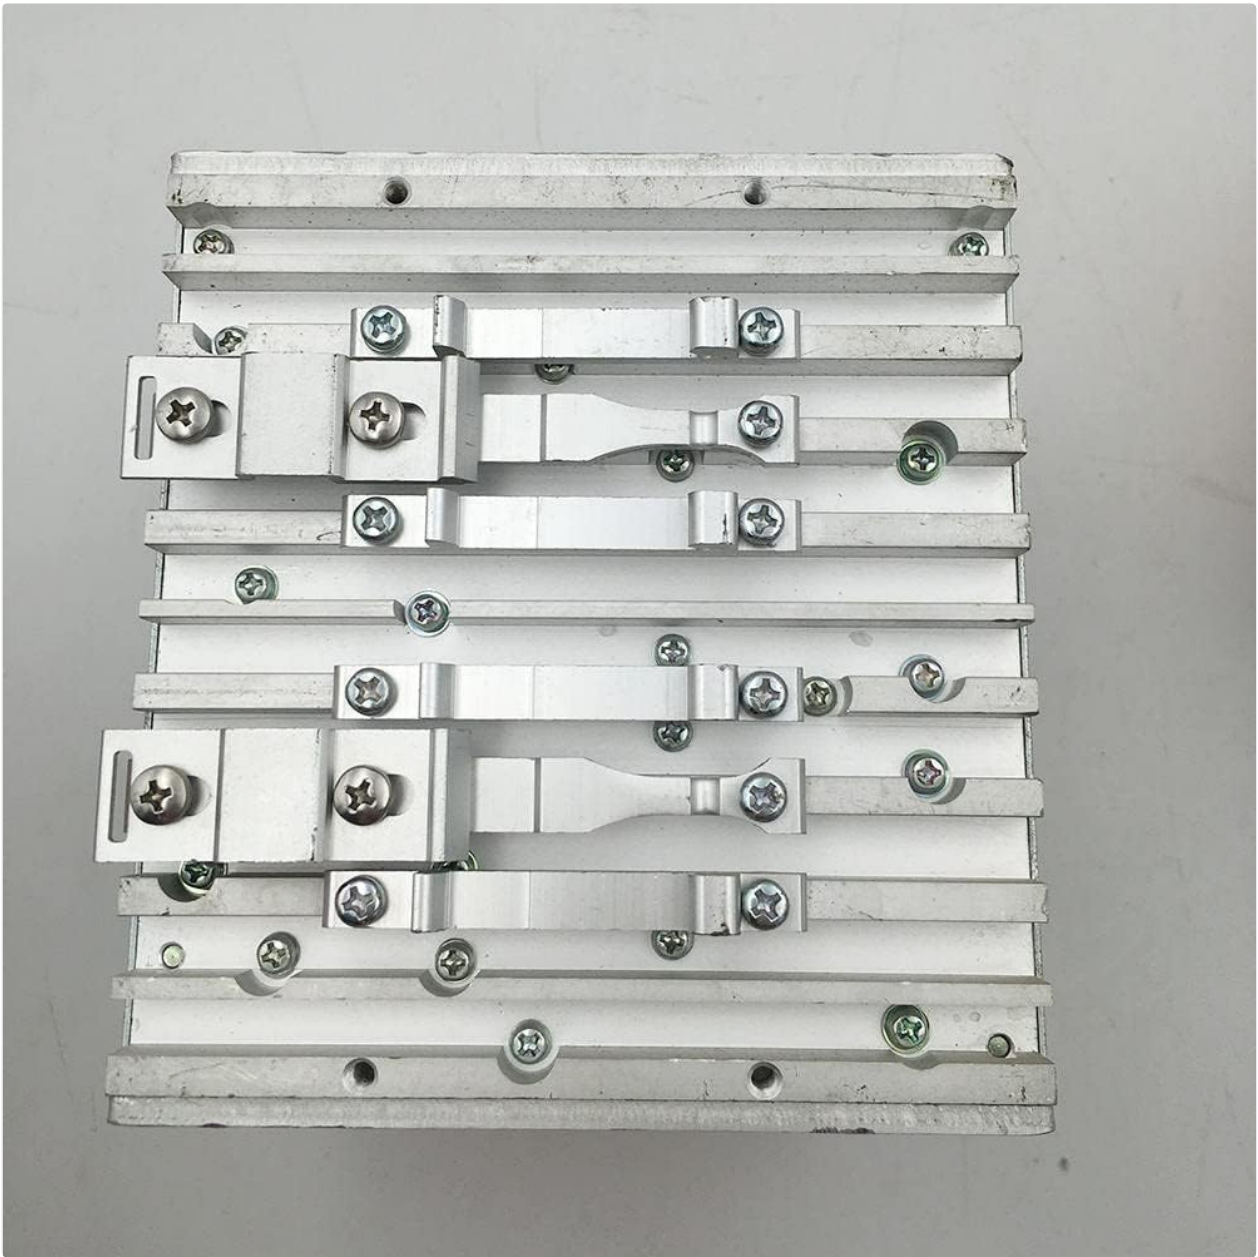

Figure 3.2: Top view of the power supply, illustrating the integrated mounting brackets for secure installation.
1. **Mounting:** Securely mount the power supply using the integrated brackets (refer to Figure 3.2) in a well-ventilated area. Ensure adequate clearance for airflow around the unit.